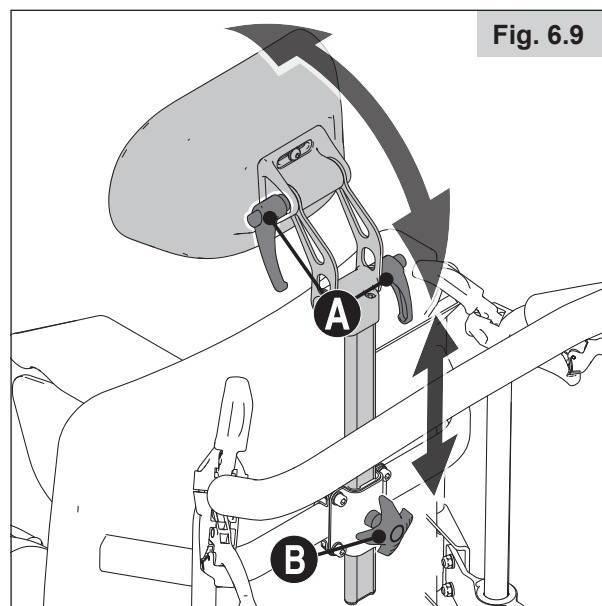

Fig. 6.9
6.8 Adjusting the neck support (Fig. 6.9)